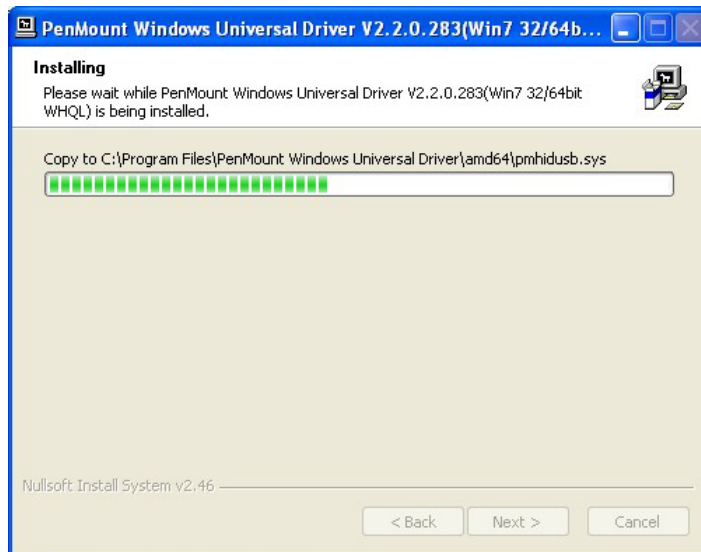

Figure 6-5: Installation Starts
Step 9: The installation of the program begins. See **Figure 6-5**.